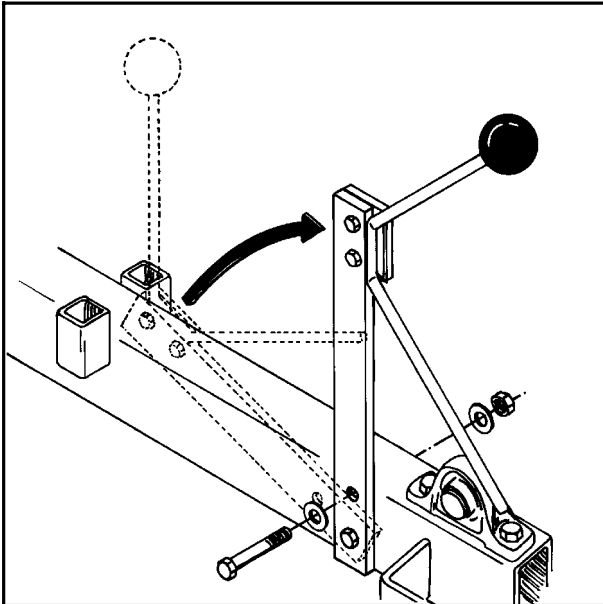

Fig. 4-3
**THE KNIFE** is by delivery fastened to the turntable with one screw. Lift the knife and mount the other one with washers and lock nut as shown in fig. 4-3. Remember the washers to protect the paintwork. Tighten them both.